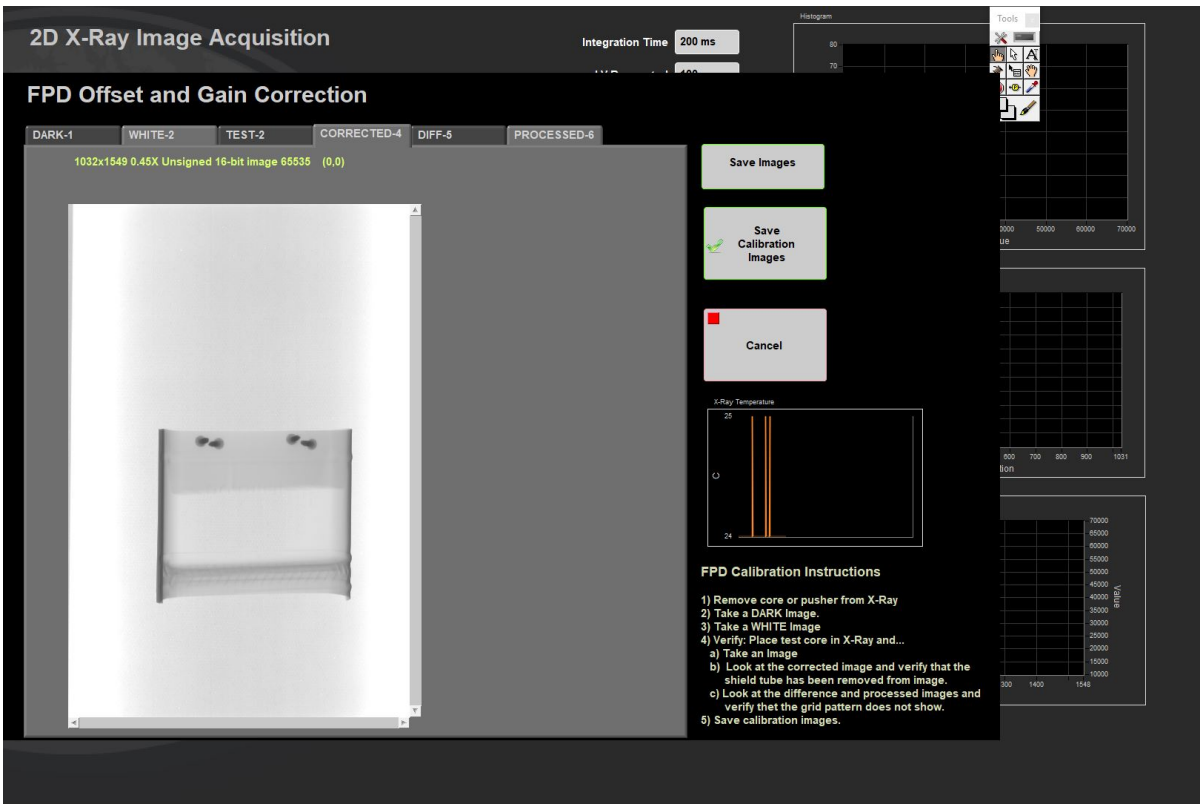

Figure 27- Corrected Image Tab
4. Select tab CORRECTED-4 (**Figure 27**).